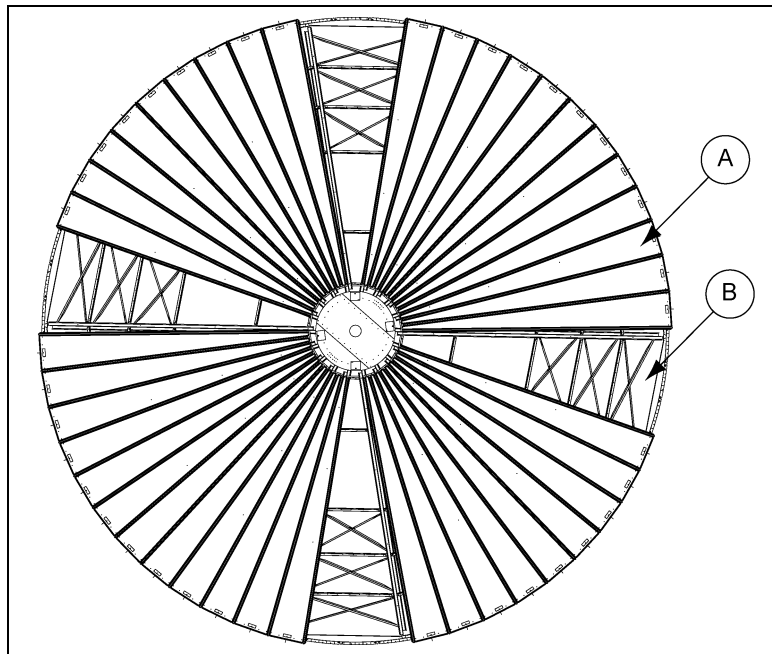

Figure 1 Location to Installing the Vent Panels
Install all the standard roof panels leaving four (4) locations (bays) (approximately 90° apart) open as shown, to install three (3) vent/explosion panels in each open location (bay). (See Figure 1.)